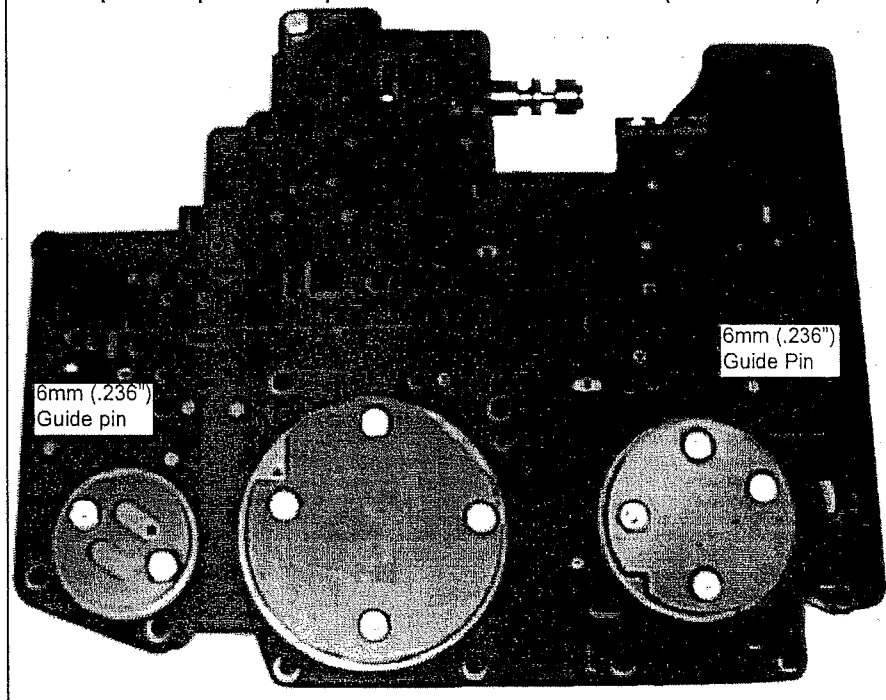
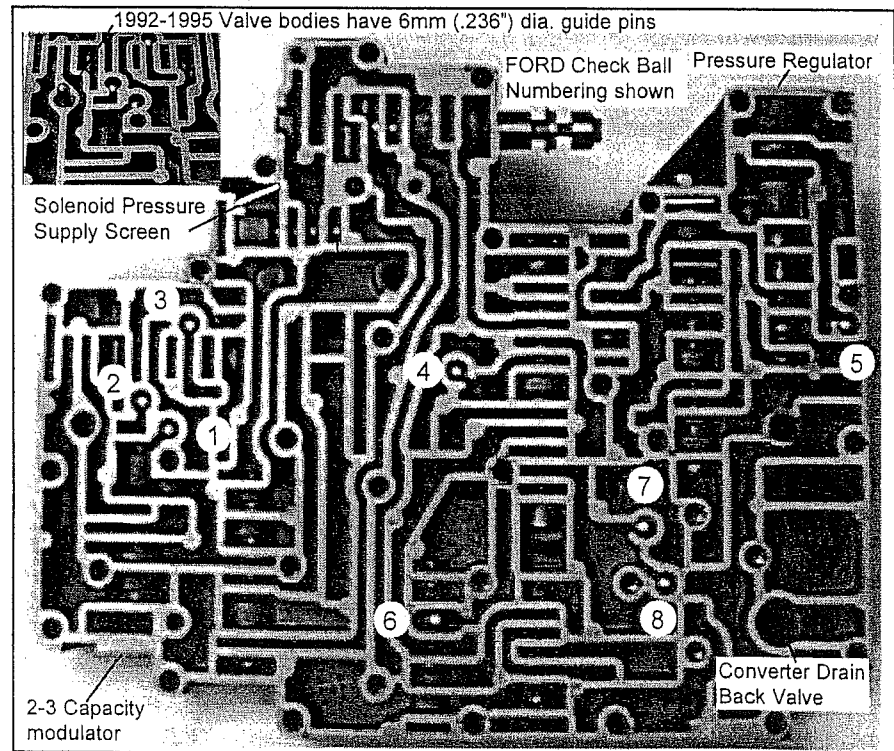

Figure 3. '92-'95 (TYPE A) Valve Body & Cover Plates
Figure 9. '92-'95 Check Ball Locations (TYPE A Valve Body)
valve body on a clean surface with the separator plate side facing up. Make a note of the orientation of the three round reinforcement plates (**See Fig. 3**). Remove the eleven (11) 8mm hex head bolts holding the three (3) round reinforcing plates and separator plate to the valve body. Carefully lift the separator plate and gaskets off the valve body. Remove Check Balls, Solenoid Pressure Supply Screen and Converter Drain Back Valve (**See Fig. 9**). Remove all of the old separator plate gasket material from the case, valve body and separator plate surfaces. Rinse parts with solvent.
Step 12. Install all 8 Check Balls, Solenoid Pressure Supply Screen and Converter Drain Back Valve into valve body (See Fig. 9 or 12). Make sure the two (2) guide pin bolts are installed